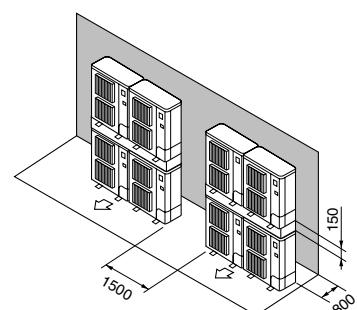

Fig. 2-14
- ⑦ Stablaede enheder arrangement (Fig. 2-14)